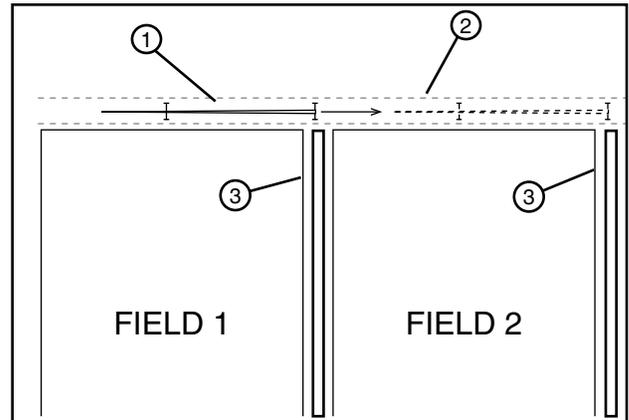

Figure 81-1 1. Machine 2. Tow Lane 3. Cart Path and Ditch
1. Position the machine in the tow lane. See Figure 81-1.